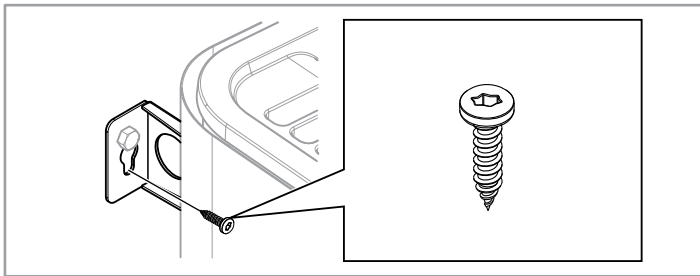

Figure 14: Lock screw for bracket
8. Lock the heater into place with the lock screw see Fig. 14.